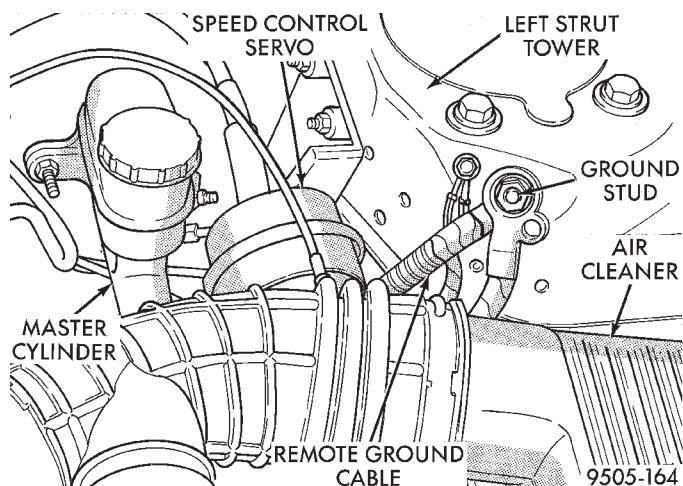

Fig. 103 Ground Cable Attachment To Strut Tower
- (1) Remove the remote ground cable from the ground stud located on the left shock tower (Fig. 103).
(19) Install the remote ground cable (Fig. 103) on the ground stud located on the left strut tower (Fig. 103). Install and securely tighten the ground cable attaching nut.
(20) Check brake light switch for correct adjustment. If required, adjust stop lamp switch as necessary. See required procedure in the Service Adjustments Section in this group of the service manual.
(21) Road test vehicle to ensure proper operation of the vehicle's brake system.